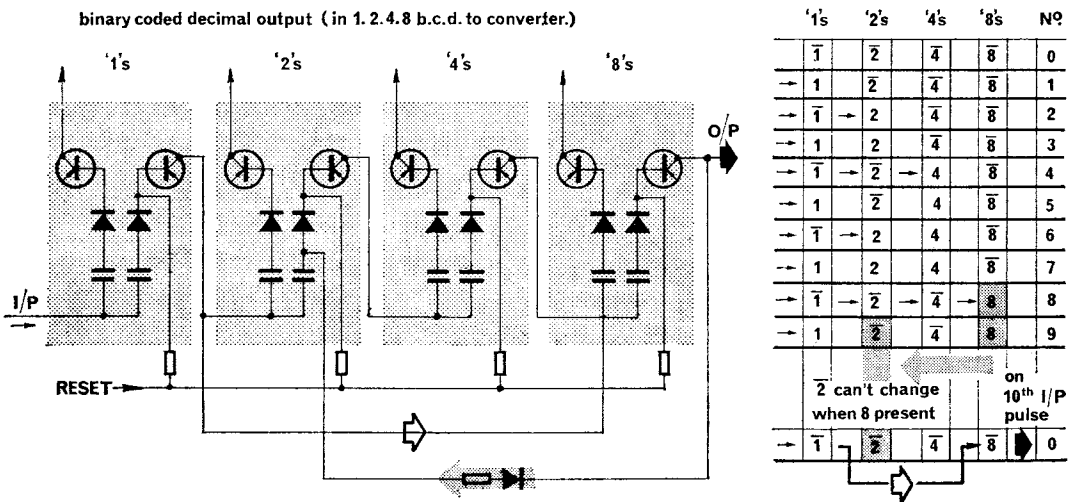

Fig. 4. Decade counter unit
6. **The decade counter.** The purpose of a decade counting unit is to divide the input by a factor of ten, i.e., to give *one* cycle output for *every ten* cycles input. To obtain a decade counter four binaries are connected in cascade so that the output of each binary acts as the input to the next one (see figure 4). This system would count by sixteen ($2 \times 2 \times 2 \times 2$) in its normal form and two feedback loops are required to make it count by ten.
a. A d.c. bias is fed back from the 8 counter to prevent the 2 counter changing states when 8 is present. This feedback has no effect when the eights counter is in the $\bar{8}$ state as the collector of the right hand transistor is at approx. earth. When 8 is present this collector is at a negative voltage which is fed to reverse bias the input diode of the two's counter and will keep it in the $\bar{2}$ state (see table in figure 4).
b. The output of the ones counter is also fed as an input to the eights counter. This input will have no effect when the counter is in the $\bar{8}$ state as the left hand transistor is already cut off. When the eights counter is in the 8 state this input will change it back to $\bar{8}$. This will occur on the tenth input cycle to the complete decade counter, and will restore it to the zero or reset condition (see table in figure 4).